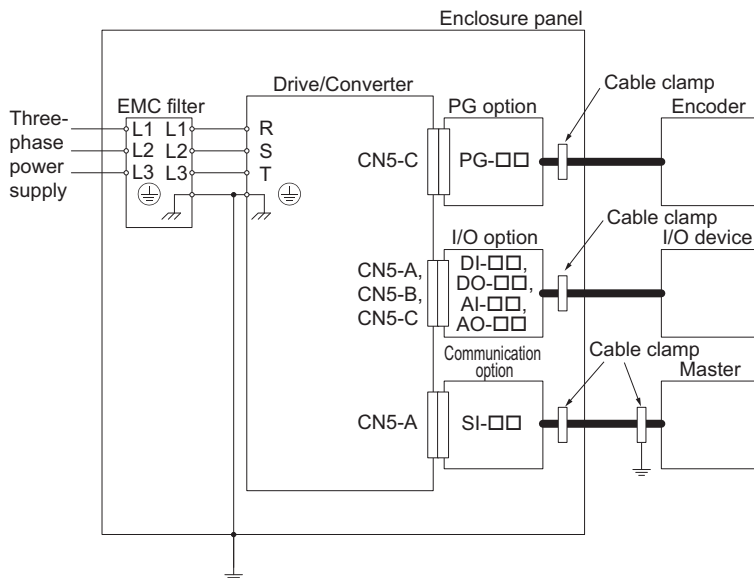

Figure 22 Option Installation for CE Compliance
2. Keep wiring as short as possible and ground the largest possible surface area of the shield to the metal panel according to Figure 22.